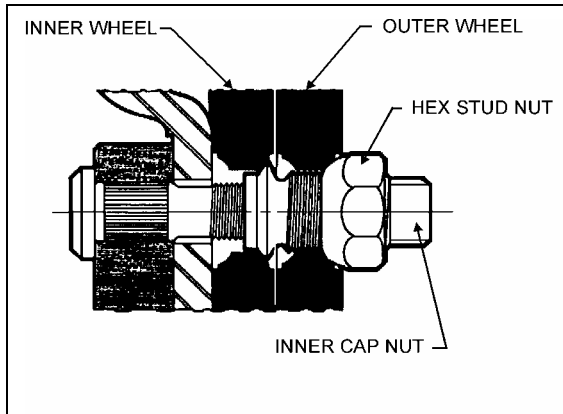

FIGURE 3: DUAL WHEEL INSTALLATION 13007
2. Screw in the inner cap nuts (Fig. 3), so that wheel will position itself concentrically with hub. Refer to Figure 2 for sequence;
With inner wheel installed, tighten the hex stud nuts (Fig. 3) using the single wheel installation procedure described previously.
1. Loosen a hex stud nut three turns (Fig. 3);